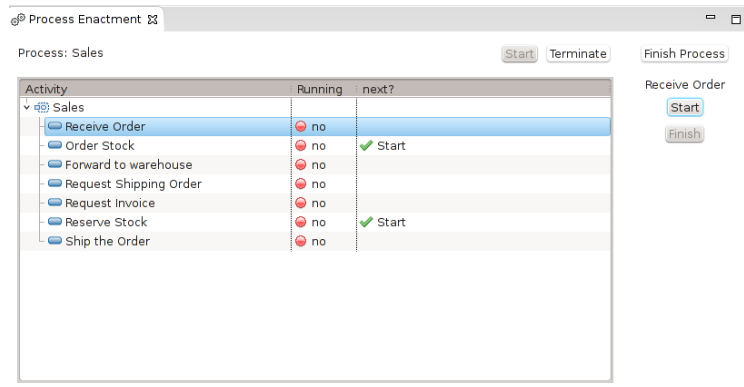

Figure 18 Enactment view - Two suggested activities
3. Now the `Finish` button in the process enactment view can be used to stop the execution of this activity. After the completion of *Receive order* activity, we can see that no activity is running in the `process enactment view`. However there are two suggested activities to be executed next: *Reserve order* and *Order stock*. (see Figure 18 Enactment view - Two suggested activities)